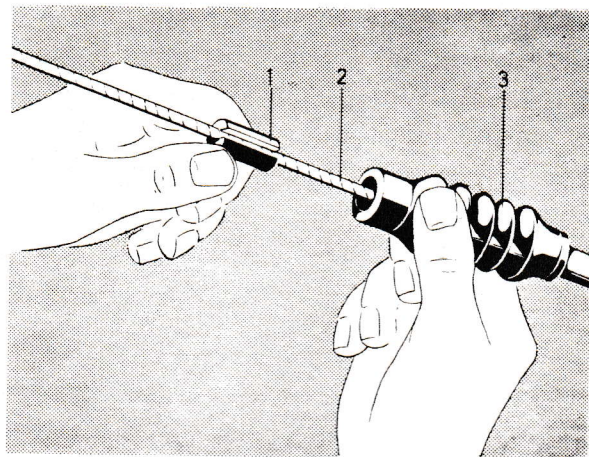

Fig. 32. Fitting the rubber cover.
When replacing, remove the rear pull rod from the countershaft and unhook the cable from the clevis. Cut off the old casing and place on the new one. Hook the cable onto the clevis and fit the pull rod back in position. Fit the slotted sealing plug (1, Fig. 32) onto the cable (2) and press it into the rubber cover (3).